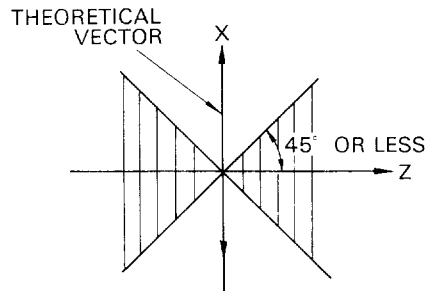

Fig. 12
- (b) If the direction of the cutting command moving axis is smaller than 45° , or is equal, relative to Z-axis ($|X/2| \leq |Z|$), a vector (wall) parallel to X-axis is theoretically erected to make compensation calculations with the cutting moving axis. The tool moves toward this calculated position. See Fig.12.